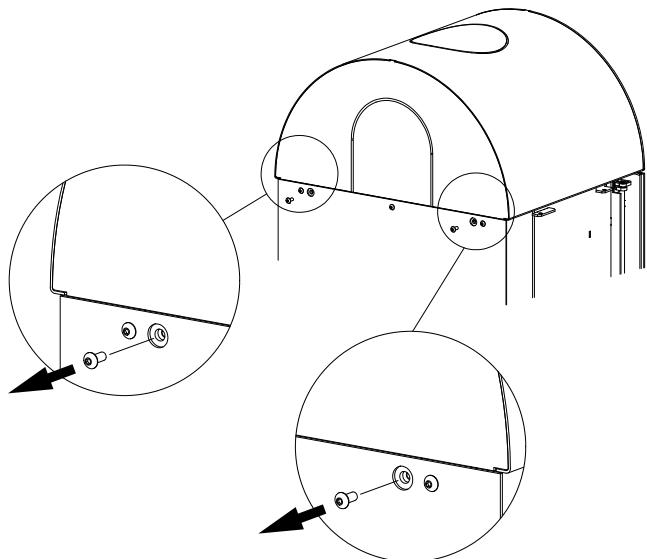

Fig. 2
- Unscrew cover hood front and rear and take it off (see Fig. 2–4).